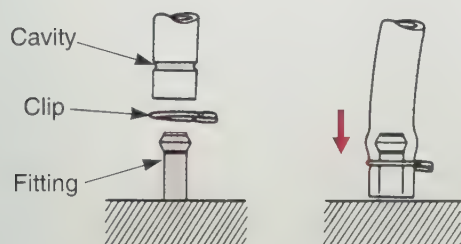

Figure 4-42. Installing a hose clip. (Honda Motor Co., Ltd.)
- Rubber hoses (fuel, vacuum, or coolant) should be installed so the end is bottomed onto its fitting. This allows adequate area for the hose clip to grip the hose, **Figure 4-42**.